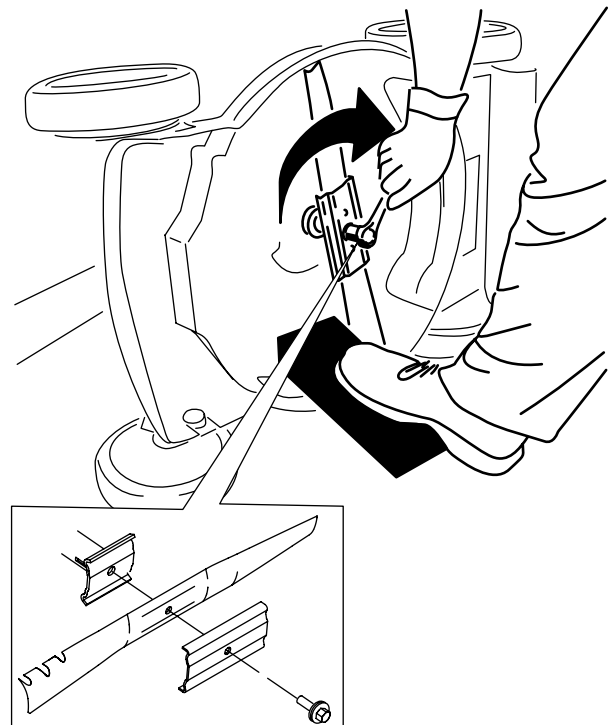

Figure 18
4. Install the new blade, bracket, and blade bolt (Figure 18).